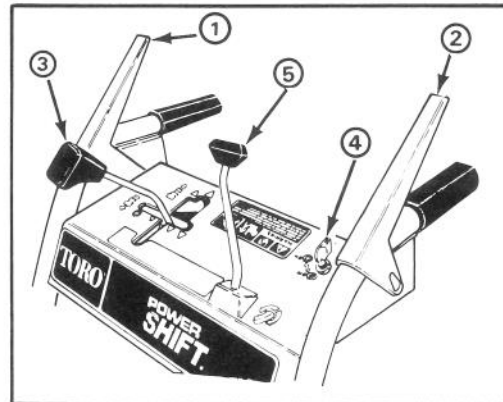

Figure 9.
Auger/Impeller Control (Fig. 9) — Control has two positions: ENGAGE and DISENGAGE. To engage auger and impeller, compress lever against right handle grip. To disengage, release lever.
Traction Drive Control (Fig. 9) — To engage traction or activate power shift system, lever must be compressed against left handle grip. To stop traction, release lever.
Speed Shift Control (Fig. 9) — The control has four speeds forward and two reverse and also controls power shifting of wheels. To select speeds, move shift control to desired position.
Auger Lock-Up: (Fig. 9) — When auger/impeller control and traction drive control are both compressed, the traction control locks the auger/impeller control down. Releasing the traction control releases the auger/impeller.
Discharge Chute Control (Fig. 9) — Rotate discharge chute control clockwise to move discharge chute to the right and counterclockwise to move chute to the left.
Ignition Switch (Fig. 9) — Switch has two positions: ON and OFF. Rotate key to ON position before starting engine. To stop engine, rotate key to OFF.
4. Rotate ignition key to ON (Fig. 9).
1. Release traction and auger/impeller drive controls (Fig. 9).